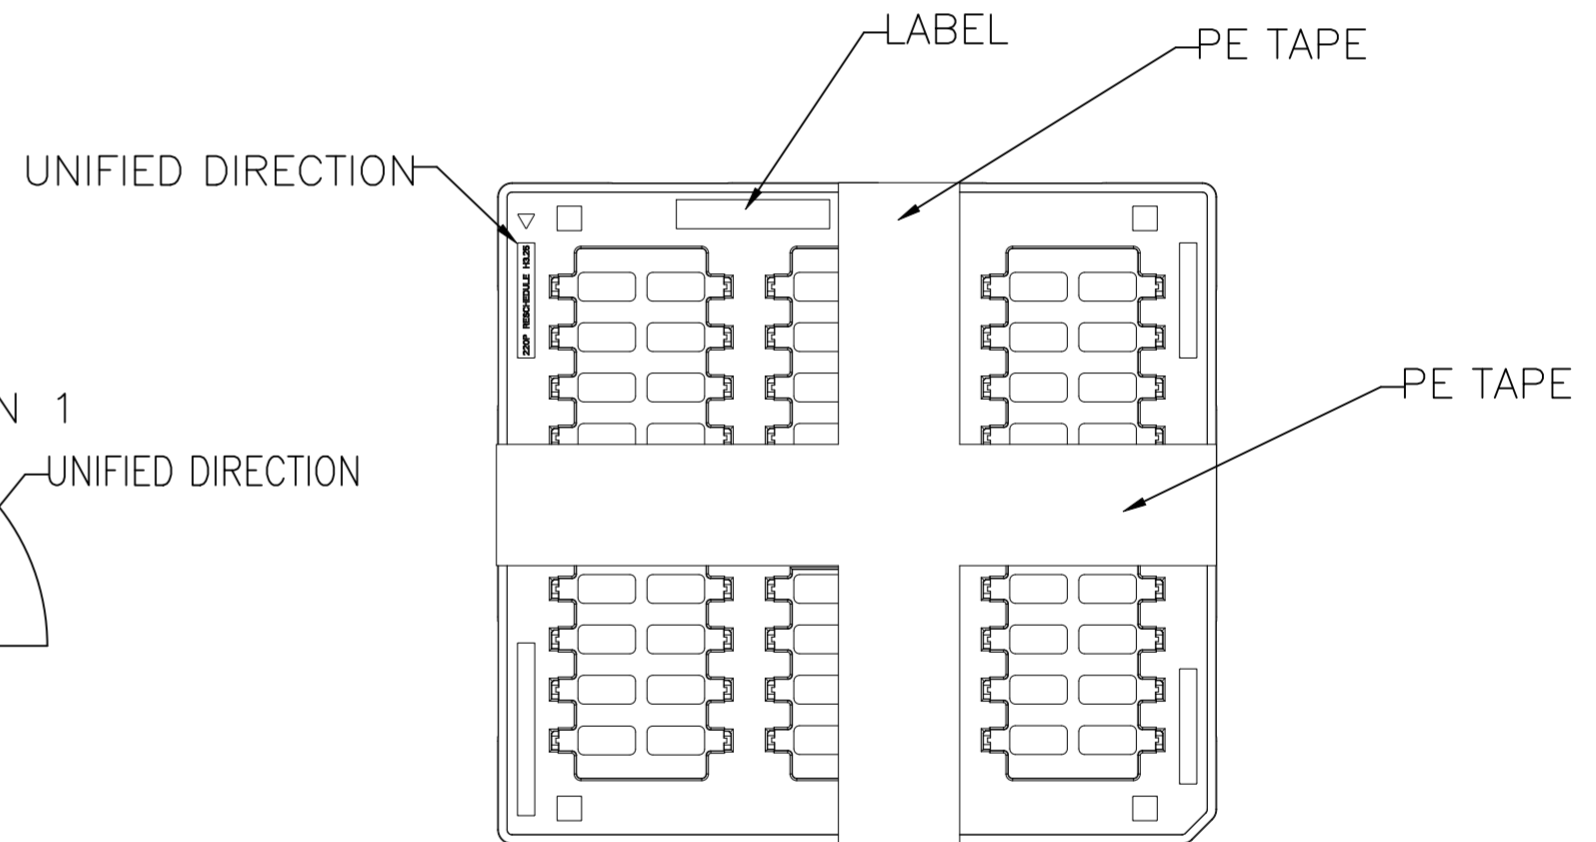

FIGURE 2
- THE ENTIRE TRAY IS FILLED WITH PRODUCTS, AND THE TRAY IS STACKED IN THE SAME DIRECTION. 10 TRAYS OF PRODUCTS PLUS 1 EMPTY TRAY FORM 1 BUNDLE, WITH LABELS ATTACHED TO THE EMPTY TRAYS. PE FILM IS USED TO CROSS WRAP AT LEAST 2 TURNS (WIDTH 60MM) AS SHOWN IN FIGURE 2.